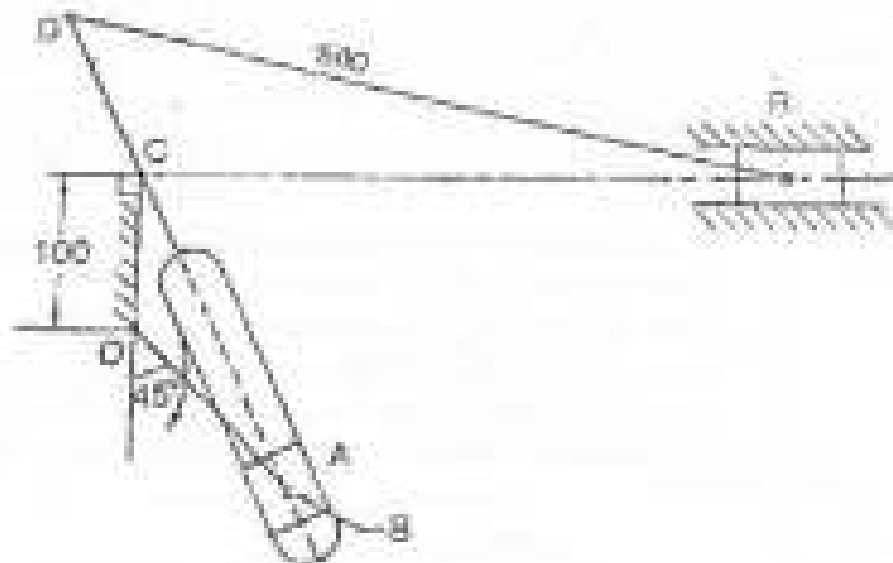

Fig. 2 (Not to scale)
- Q2) Is a Whitworth quick return motion mechanism as shown in Fig. 2, OA is a crank rotating at 30 rpm in a clockwise direction. The dimensions of various links are: OA = 150 mm, OC = 100 mm, CD = 125 mm, and DR = 300 mm. Determine the acceleration of the sliding block R and angular acceleration of the slotted lever CA. [18]